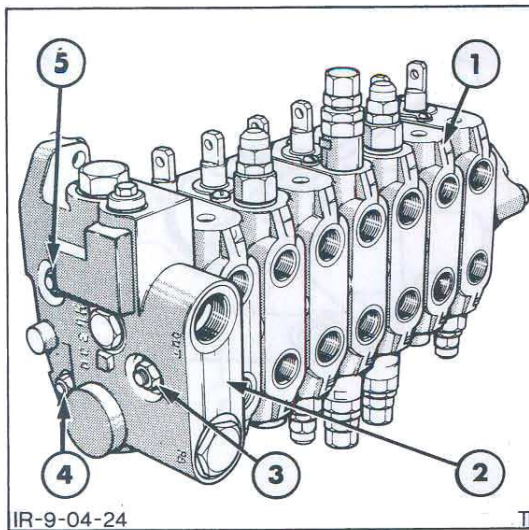

Figure 25
2. Remove the nuts from the tie rods on the outlet end cover end as shown in Figure 25.